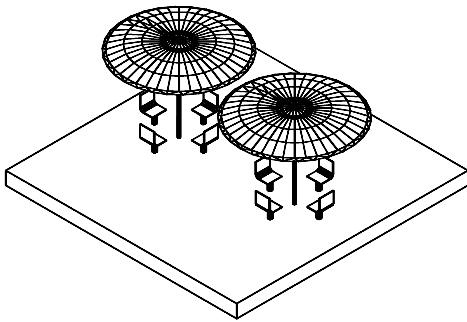
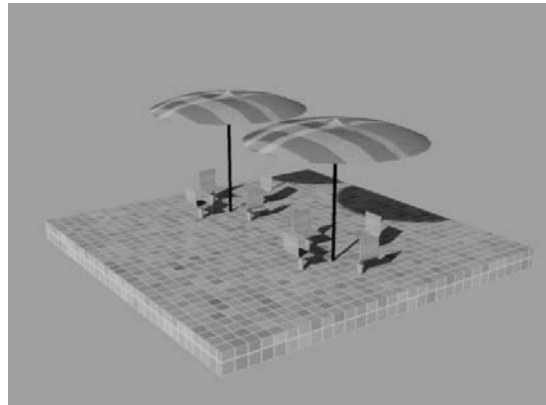

Figure 30-51 Model for Example 3 before rendering
Figure 30-52 Model for Example 3 after rendering
In this example, you will create the model shown in Figures 30-51. Choose materials of your choice. Set the sun light using the geographic location and render it, as shown in Figure 30-52. The geographic location and other parameters are given next.
1. Create the model, as shown in Figure 30-51.